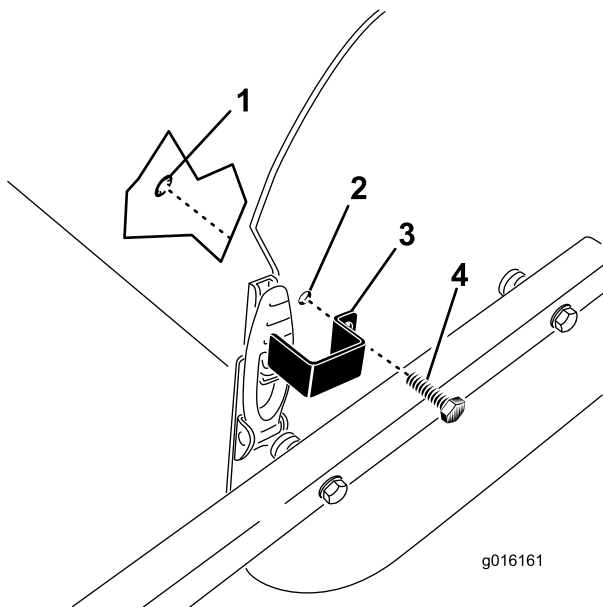

Figure 36
1. Position the latch plate over the hood latch while aligning the mounting hole with the hole in the side plate (Figure 36).
2. Secure the latch plate to the side plate with a tap bolt and a retaining ring (Figure 36).